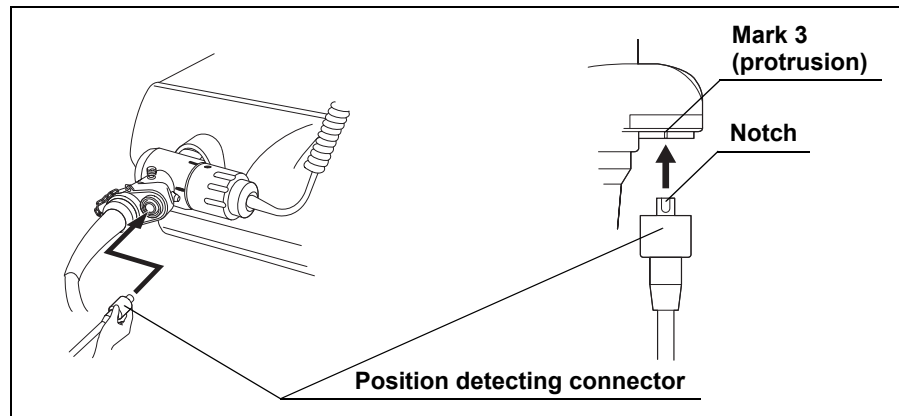

Figure 3.23
11. Align the notch on the position detecting connector of the UPD cable with mark 3 on the UPD scope connector of the endoscope and push the position detecting connector into the UPD scope connector until it stops (for CF-Q260DL/I, CF-H260DL/I only, see Figure 3.23).